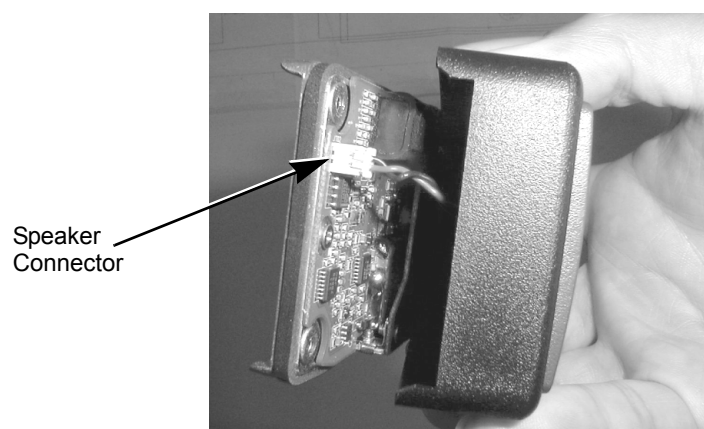

Figure 2-9.
6. Connect the RF Board to the internal speaker on the front cover with the speaker connector (See Figure 2-9).